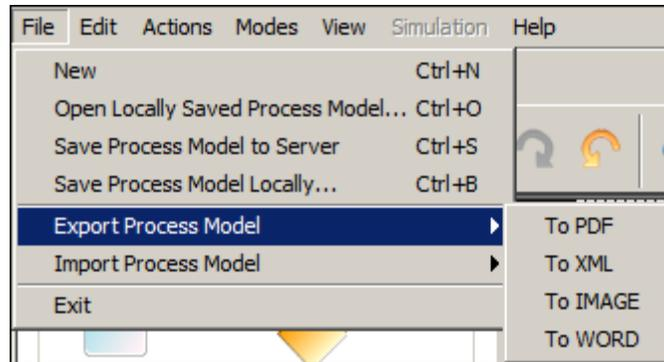

Figure 24: Export Process Model
2. Click the **File Menu** and point your cursor to **Export Process Model** option. A sub menu to select the format is displayed (see Figure 24 ).